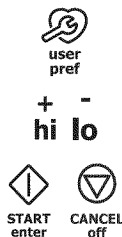

Figure 10: Clock on (L) or off (R) display
1. Press **user pref** until **preset clock display** mode appears (Figure 10).